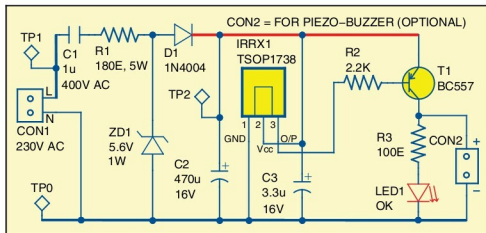

Fig. 1: Circuit diagram of the remote control tester
Fig. 1 shows circuit diagram of the remote control tester. It is built around infrared (IR) receiver module TSOP1738 (IRRX1), a pnp transistor BC557 (T1) and some other components. A buzzer (optional) can be used at the output for audio indication.